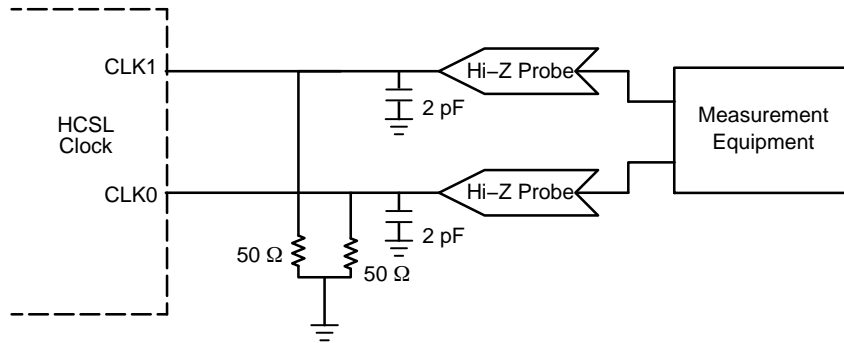

Figure 8. HCSL Parameter Measurement
- Measurement taken with outputs terminated with $R_S = 0\ \Omega$, $R_L = 50\ \Omega$, with test load capacitance of 2 pF. See Figure 8. Guaranteed by characterization.